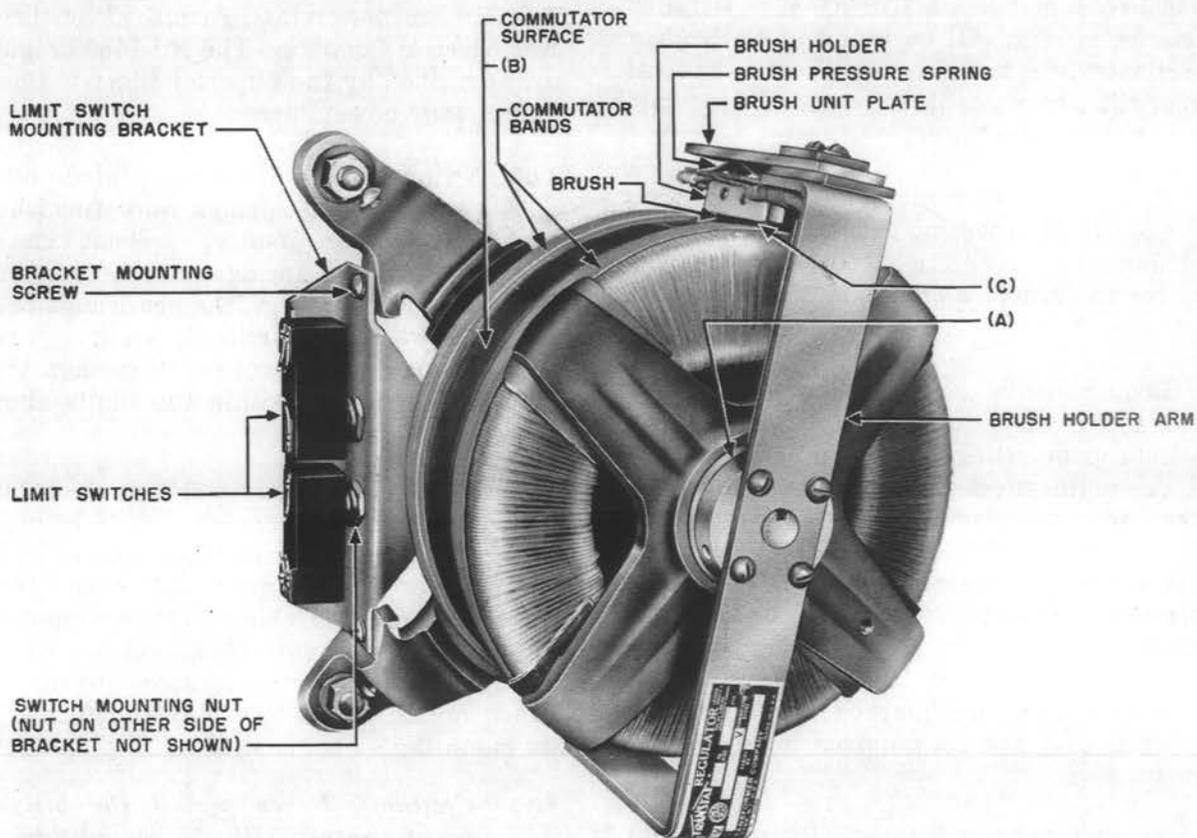
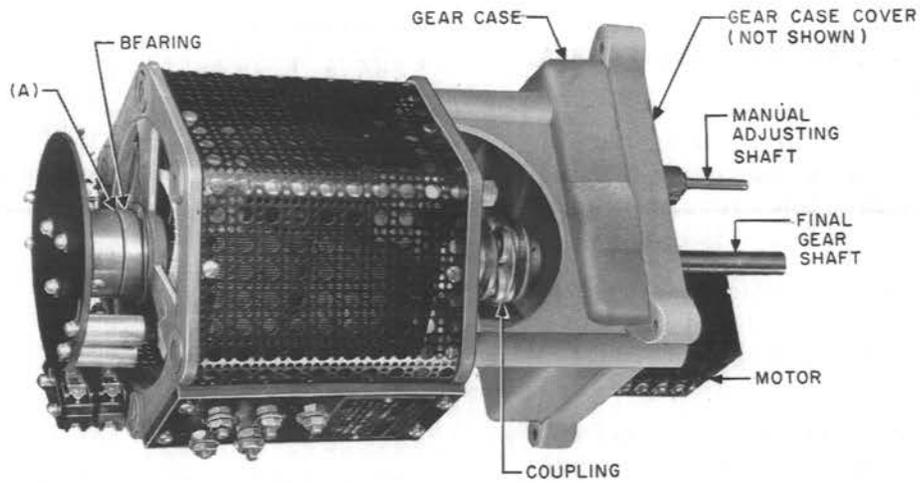
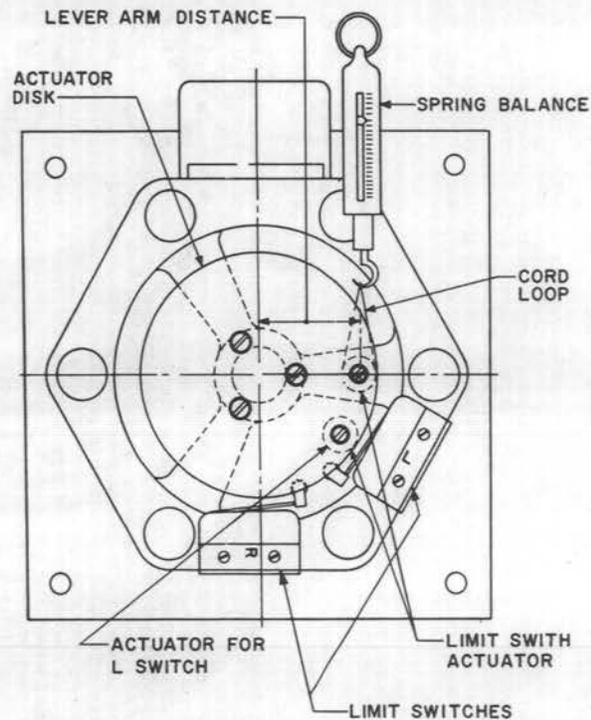

Fig. 1 - KS-5552 (Transtat) Autotransformer
Fig. 2 - KS-5775 Autotransformer
Fig. 4 — Typical Powerstat Showing Method of Measuring Torque
(1) *Bearings of KS-5552, KS-5621, and KS-5775 Autotransformers:* Fig. 1(A), Fig. 2(A) — If the autotransformer squeaks during rotation, the bearings shall be lubricated sparingly with KS-6232 oil.
Use the R-2771 spring balance or 79D push-pull tension gauge. To check the torque, disengage the driving mechanism as covered in 3.003. Referring to Fig. 4 for powerstats, loop a cord around one of the limit switch actuators and engage the hook of the spring balance or push-pull gauge in the loop. For the transtat, Fig. 1, loop the cord around the brush holder arm adjacent to the outer end. Referring to Fig. 4, pull the gauge at right
angles to the radius through the center of rotation and observe the gauge reading just as movement starts. Determine the torque by multiplying the gauge reading by the lever arm distance, in inches, shown in Fig. 4. After the requirement is met, remount parts as covered in 3.004.
2.04 Condition of Commutator Surface — Fig. 1(B) and Fig. 5(B)
(b) *KS-5552 Transtat — Fig. 1*
KS-5552 Transtat — Fig. 1